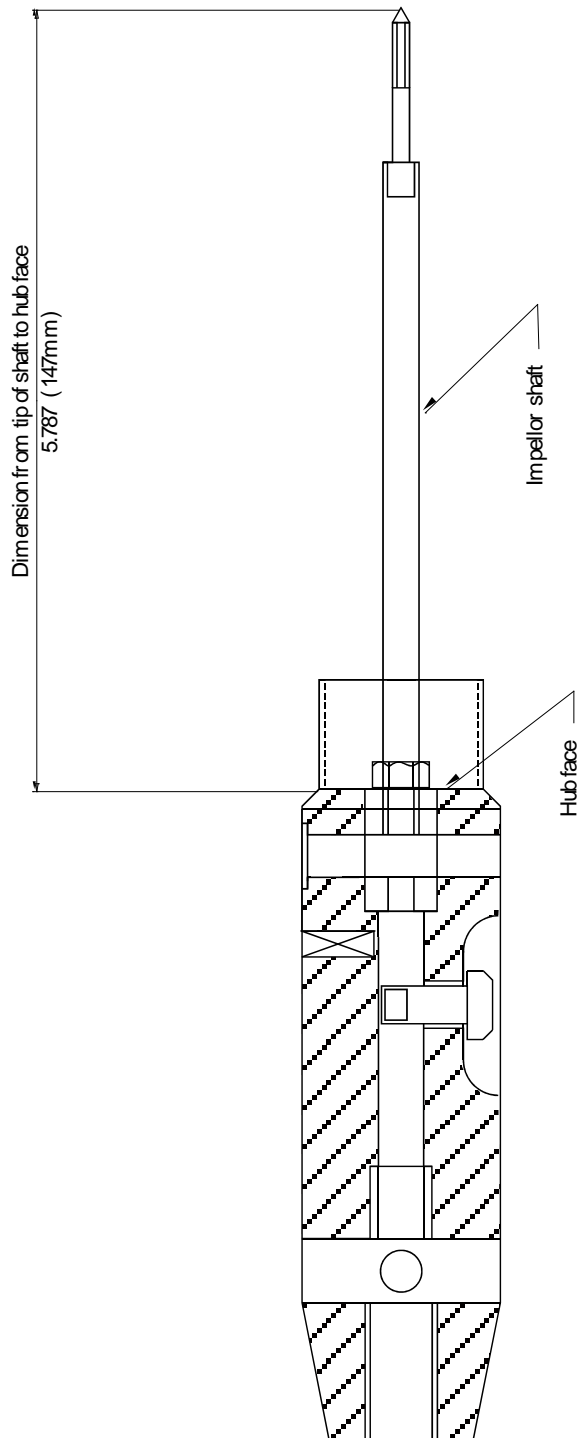

Figure 2 – BFM001 impeller shaft setting
7.2 FIGURE 2 - BFM001 IMPELLER SHAFT SETTING